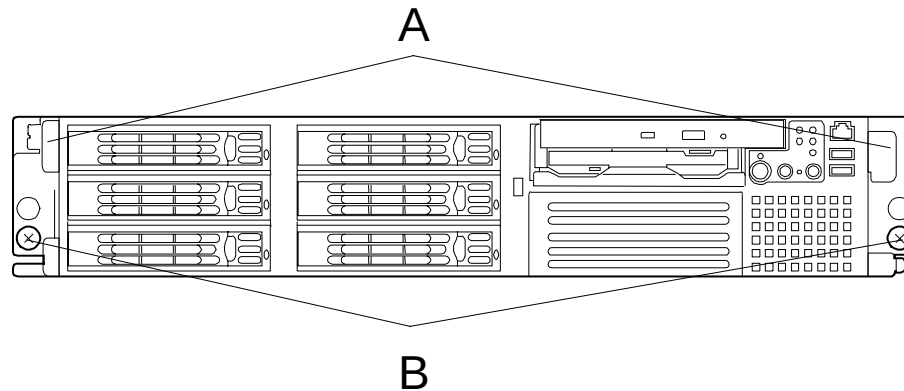

Figure 4-2. Server Handles and Thumbscrew Locations
2. Loosen the two captive thumbscrews on the front panel. See Figure 4-2, B.
3. Hold the handles and slowly pull out the server from the rack. See Figure 4-2, A. A click is heard as the slide rails lock in the extended position.